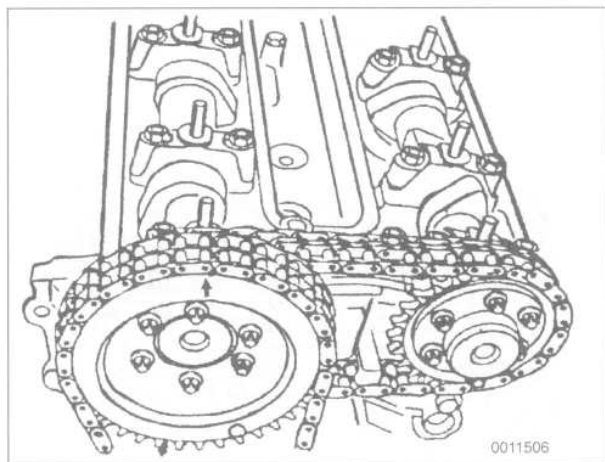

Fig. 48. Intake sprocket correctly aligned to camshaft with arrow pointing up.
8. Install intake sprocket (left cylinder head) to timing chain and camshaft with arrow on sprocket pointing up. See Fig. 48.